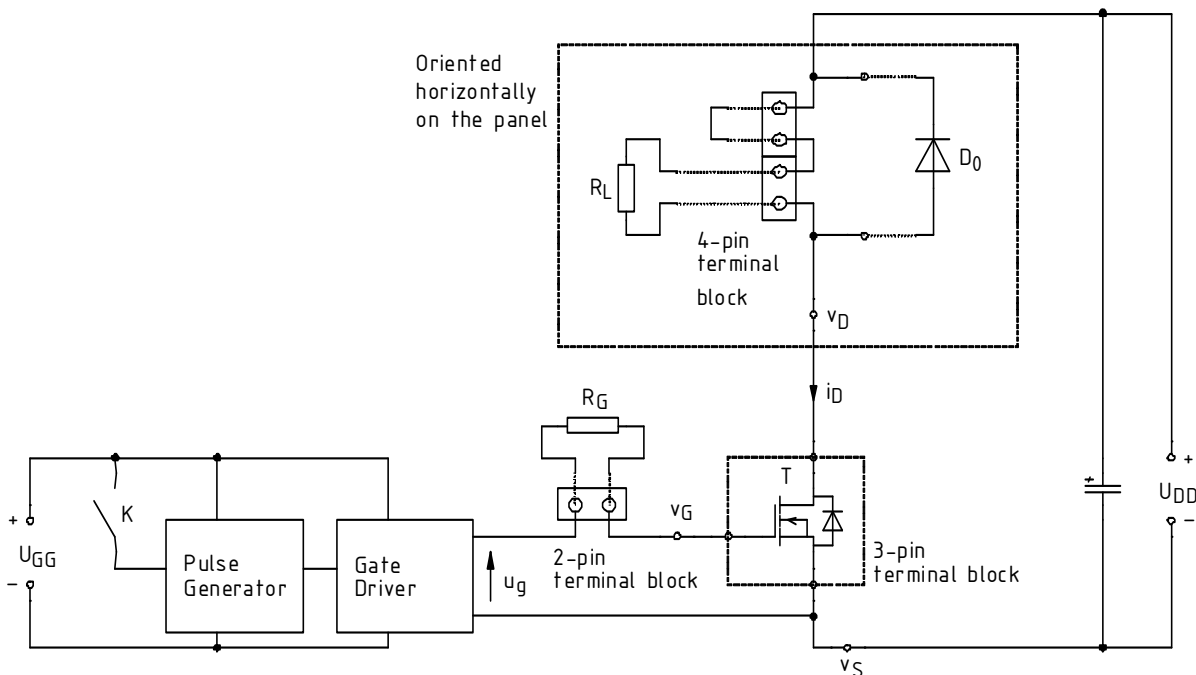

Fig. 3. Experimental set-up schematic (in the case of screw terminal blocks, only electrical connections are represented, not their real layout in space)
The schematic of the experimental set-up is presented in Fig. 3. Using blue screw terminal blocks on the panel, it is possible to insert in the circuit:
- the transistor under investigation T through the 3-pin block, whose connection in the circuit should be determined by comparison of connections shown in Fig. 3 to the ones shown on the circuit's panel.
In order to eliminate the influence of self-heating on operation of the transistor under investigation as well as to enable a large current to flow without the risk of damaging the transistor by overheating, measurements are performed using single driving pulses that switch the transistor (turn it on and, after a short while, turn it off). A rectangular pulse of the  $u_g$  voltage is generated each time the red button on the panel is pressed (the  $K_4$  switch in Fig. 3); the pulse duration  $t_p$  (see Fig. 6) is a few dozens microseconds and its amplitude is roughly equal to the control circuit supply voltage  $U_{GG}$ .
The circuit enables measurements of inter-terminal voltages and drain current of the device under investigation. Voltage measurements are performed using voltage probes appropriately connected to banana sockets labelled as  $v_S$ ,  $v_G$  and  $v_D$  in Fig. 3. Banana connectors with leads that enable attaching a probe are provided for this purpose. These connectors may be freely moved depending on current measurement needs.
Current measurements are performed by clamping the current probe around the wire fragment led above the panel marked as  $i_D$  in Fig. 3. The arrow on the probe indicates the direction assumed as positive. The probe should be so oriented that this direction is in line with the reality.
3. Mount the transistor under investigation in the 3-pin terminal block on the circuit's panel, according to the circuit schematic (compare Fig. 3 to the drawing on the panel) and transistor terminal arrangement shown in the TO-220 package data sheet which is attached to this manual.
- (e) in parallel to the  $R_L$  resistor, in sockets located under the 4-pin terminal block, mount the clamping diode  $D_0$  available at the laboratory stand (with banana plugs on its leads) keeping the appropriate polarity as shown in Fig. 3 (the cathode is marked with a strip on diode's case).